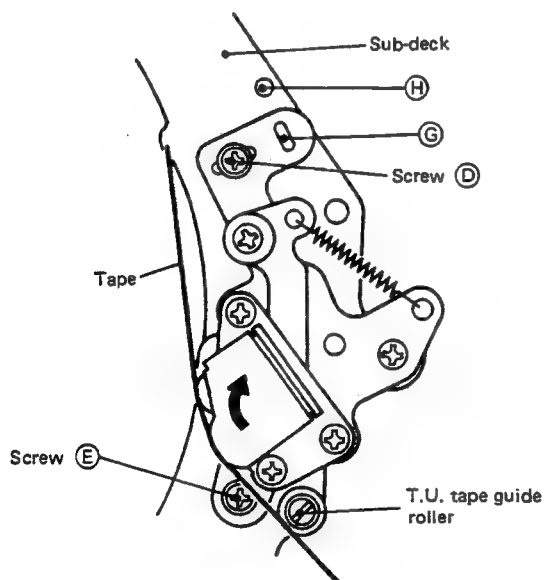
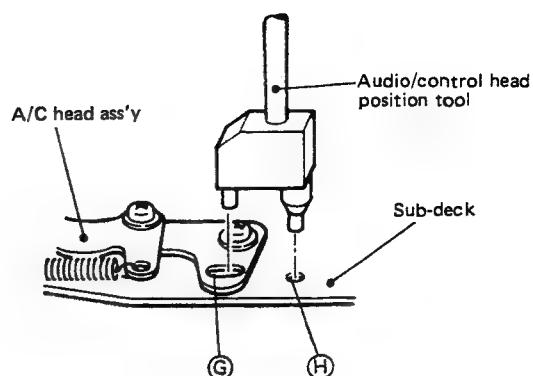

Fig. 2-56
Fig. 2-57
5. Loosen the two screws (D) and (E) and slide the audio/control head assembly fully in the direction of the drum (indicated by the arrow) as shown in Fig. 2-56.
6. Slightly tighten the two screws (D) and (E) and play stairstep segment of the alignment tape MH-1.
7. Insert the pins of the audio-control head position tool (PUJ44653) into the hole (H) in the subdeck and (G) in the audio-control head assembly as shown in Fig. 2-57.